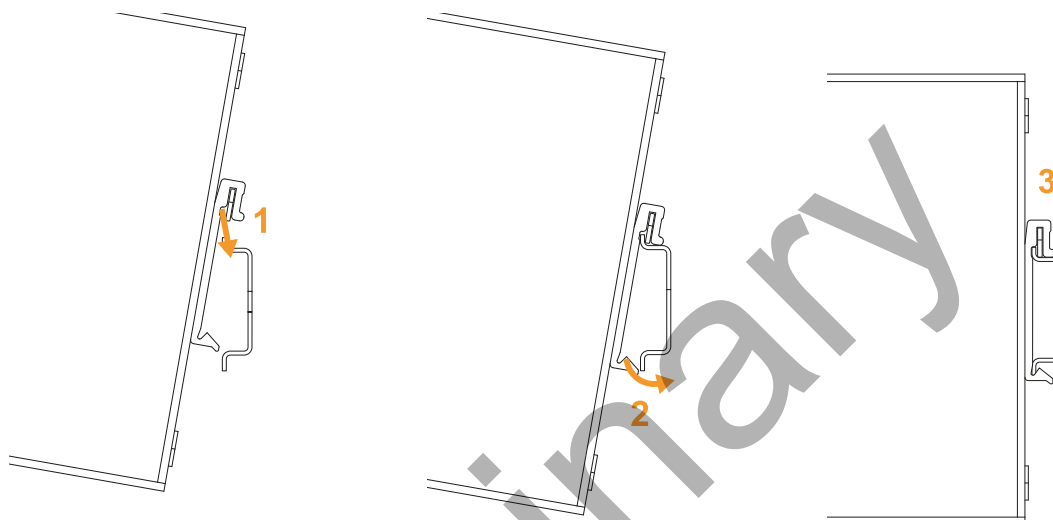

Fig. 10 - How to install the product on a DIN Rail
2. Make sure that the upper side of the DIN rail mounting clip (the clip) hangs on the upper edge of the DIN rail, see Fig. 10 below, part **1**
3. Push the product downward against the DIN rail until the lower hooked side of the clip locks to the lower edge of the DIN rail, see Fig. 10 below, part **2**.
Fig. 10 below, part **3** shows the product installed on the DIN rail.